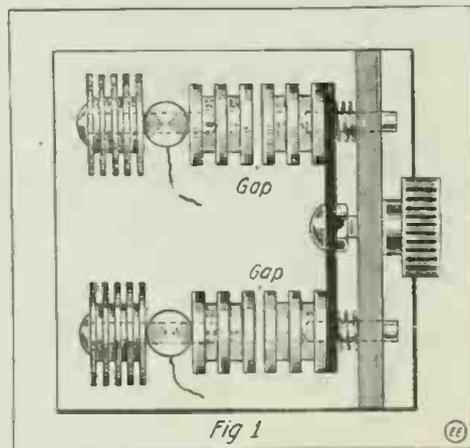

Fig. 1. A Simple Form of Fixed Spark Gap, Found Very Satisfactory for High Frequency Outfits.
*Spark gap*.—Adjustable series gap, made as shown in the diagram, Fig. 1. The sparking surfaces are of copper, turned in annular or concentric grooves as described in a previous article. Copper washers of ½" and 1" diameter, are slitted alternately on an 8-32 machine screw, and form the heat radiating wings. The further construction and operation of the gap is indicated in the drawing.